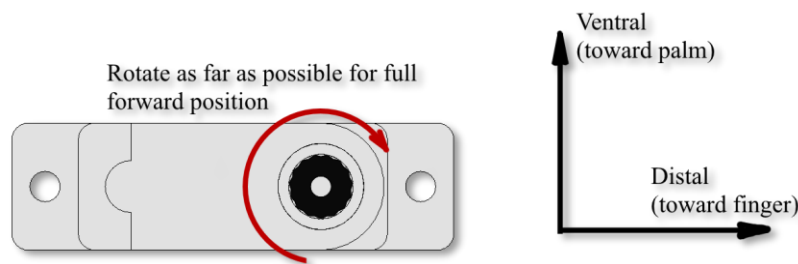
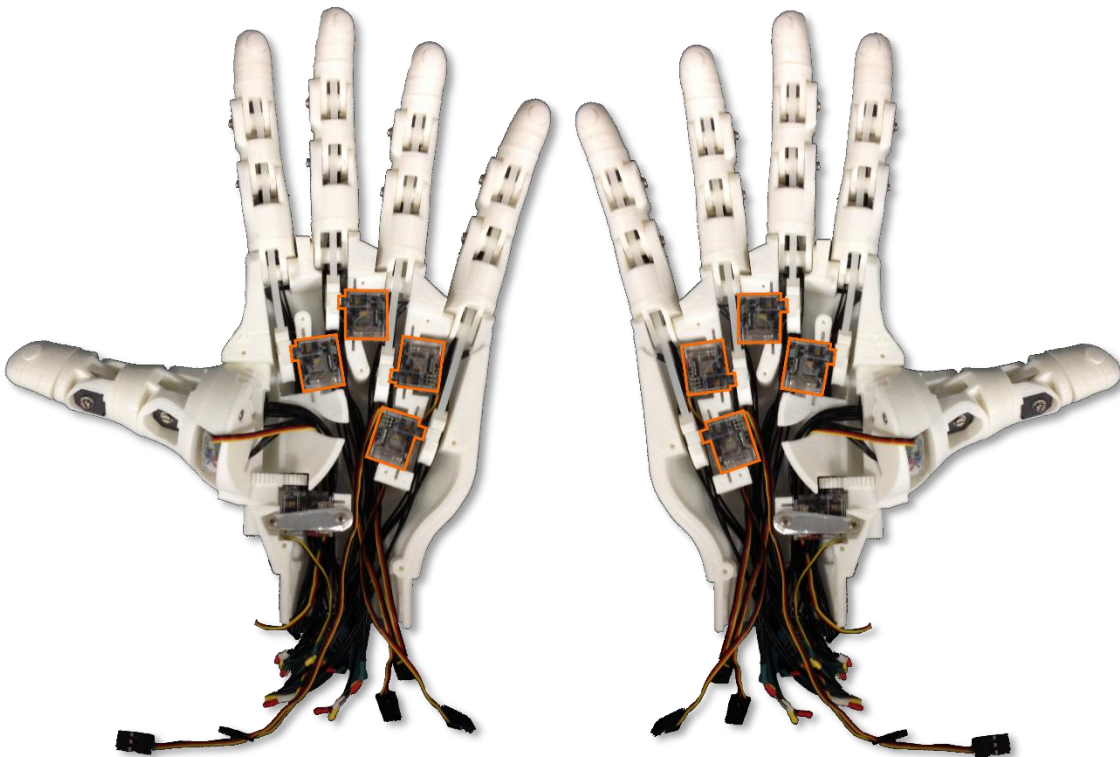

Figure 17: Full Forward Position of servo
Figure 20: Servo installation and finger tensioning complete, showing servo positions for right and left hand
1. Rotate servo to the full forward position using the Arduino sketch Pot_to_Servo_Control.ino. Wiring for this sketch is explained in section 13.1 . See Figure 17 for the definition of full forward position. Servo orientation matters for this operation, and changes depending on the finger in question. Refer to Figure 20 for correct servo positioning.
6. Pass the tendon zip-tie through the zip-tie receiver on the servo spool (or through the spool itself in the case of the thumb spool). There should be no slack in the zip-tie when the finger is fully extended, the servo is fully rotated forward, and the servo is installed in the dorsal palm. Trim the free end of the tendon zip-tie. Figure 20 shows the completed tensioning and servo installation.